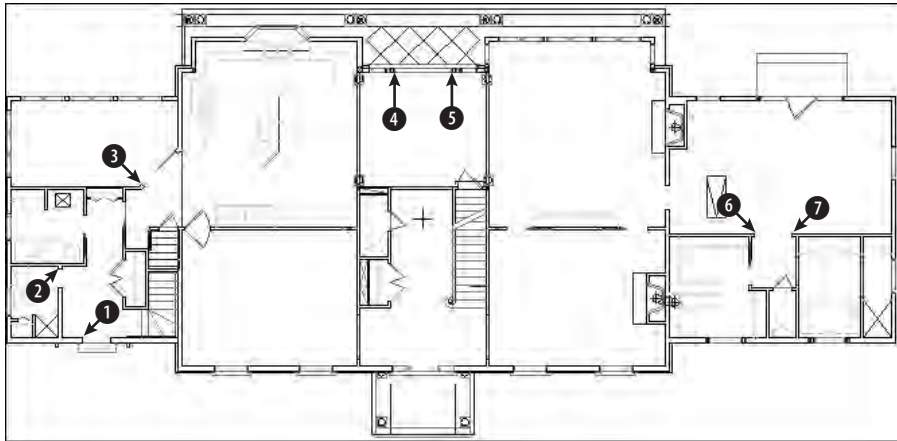

Figure 18-11: The floor plan of the house needs some doors and a new toilet.
2. Save the file as `ab18-03.dwg` in your AutoCAD Bible folder. This is the floor plan of the first floor of a house, as shown in Figure 18-11. Many of the doors and a toilet need to be inserted. OSNAP should be on. Set running object snaps for endpoint and midpoint. The current layer is Door.